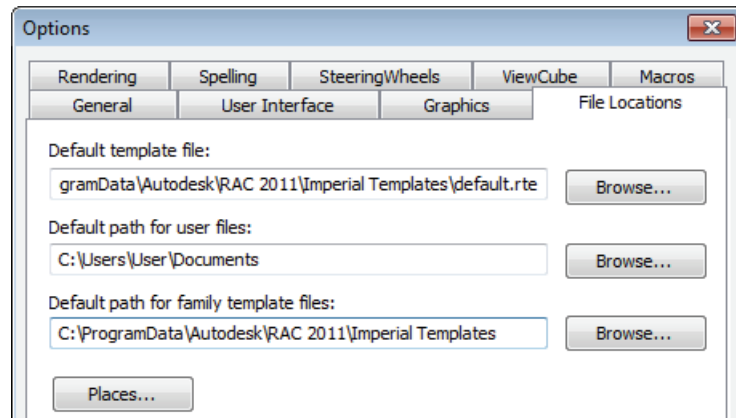

Figure 1–41
- When you save a title block, it should be on the network where everyone has access to it. That way, it is not deleted if someone reinstalls Revit. Set the default location for the family template files in the Options dialog box, in the *File Locations* tab, as shown in Figure 1–41.